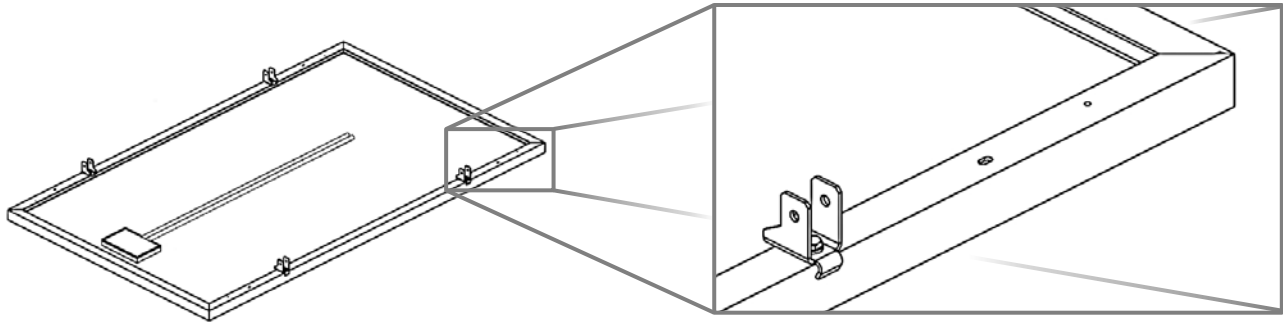

Figure 1 Claw Placement on Module
5. Press Claw firmly against module frame and tighten bolt to 8 ft-lbs of torque (Figure 1).